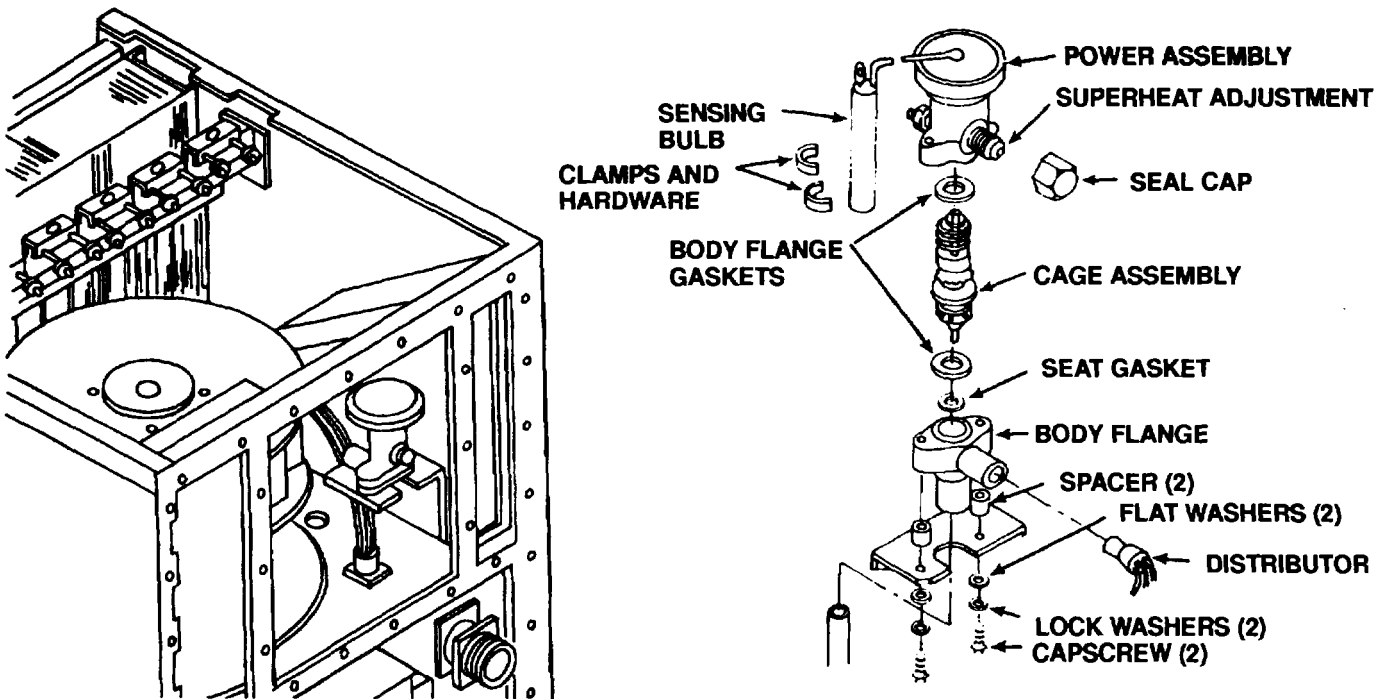

Figure 5-22. Expansion Valve
- (e) Secure insulation tubing with tape (item 14, Appendix E.)
- (1) Discharge the refrigerant system per paragraph 5-7.
- (2) Unwrap insulation from suction line so that sensing bulb is exposed. Loosen screws and nuts in clamps. pull bulb out of damp.
- (3) Disconnect flare nut on external equalizer from expansion valve.
- (4) Remove the two screws, flat washers, lockwashers, and spacers that attach the valve body to its mounting bracket.
- (5) Remove remaining valve components except for body flange. (See Figure 5-22.)
- (1) If valve body flange was removed, purge the system with nitrogen while brazing the three tubing joints. (See para 5-8 and 5-9.)
- (2) See Figure 5-22 for valve component arrangement.
- (3) Place capscrews, lockwashers, flat washers, and spacers through bracket and valve body flange.
- (4) Be sure that valve components are properly assembled and aligned and secure power assembly to body flange.
- (5) Connect flare nut on external equalizer line to expansion valve.
- (6) Insert the sensing bulb into its mounting loop clamps in its original position and tighten the screws and nuts. Be sure the sensing bulb is making good metal-to-metal contact with the suction line.
- (7) Replace the insulation tubing that was removed from the sensing bulb and expansion valve connections. Secure with tape (item 14, Appendix E.)
- (8) Replace the dehydrator. (See para 5-14.)
- (9) Leak test all newly connected joints and those in the repair area. (See para 5-10.)
- (10) Install rear panel. (See para 4-31.)
- (11) Evacuate and charge the refrigerant system. (See para 5-11 and 5-12.)